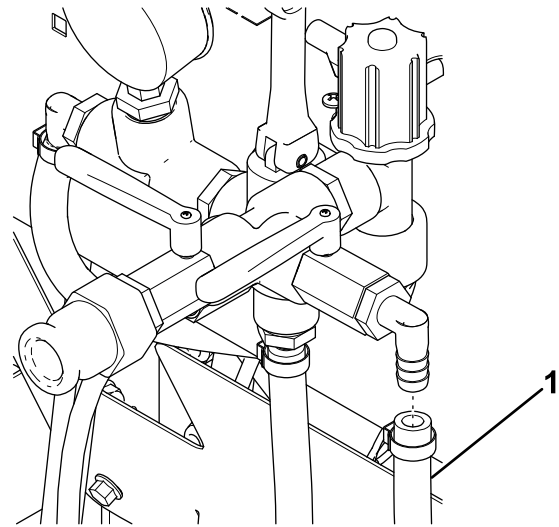

**Figure 5**
4. Apply thread locking compound to the end of the main tank valve and secure it to the side of the return valve (Figure 5).